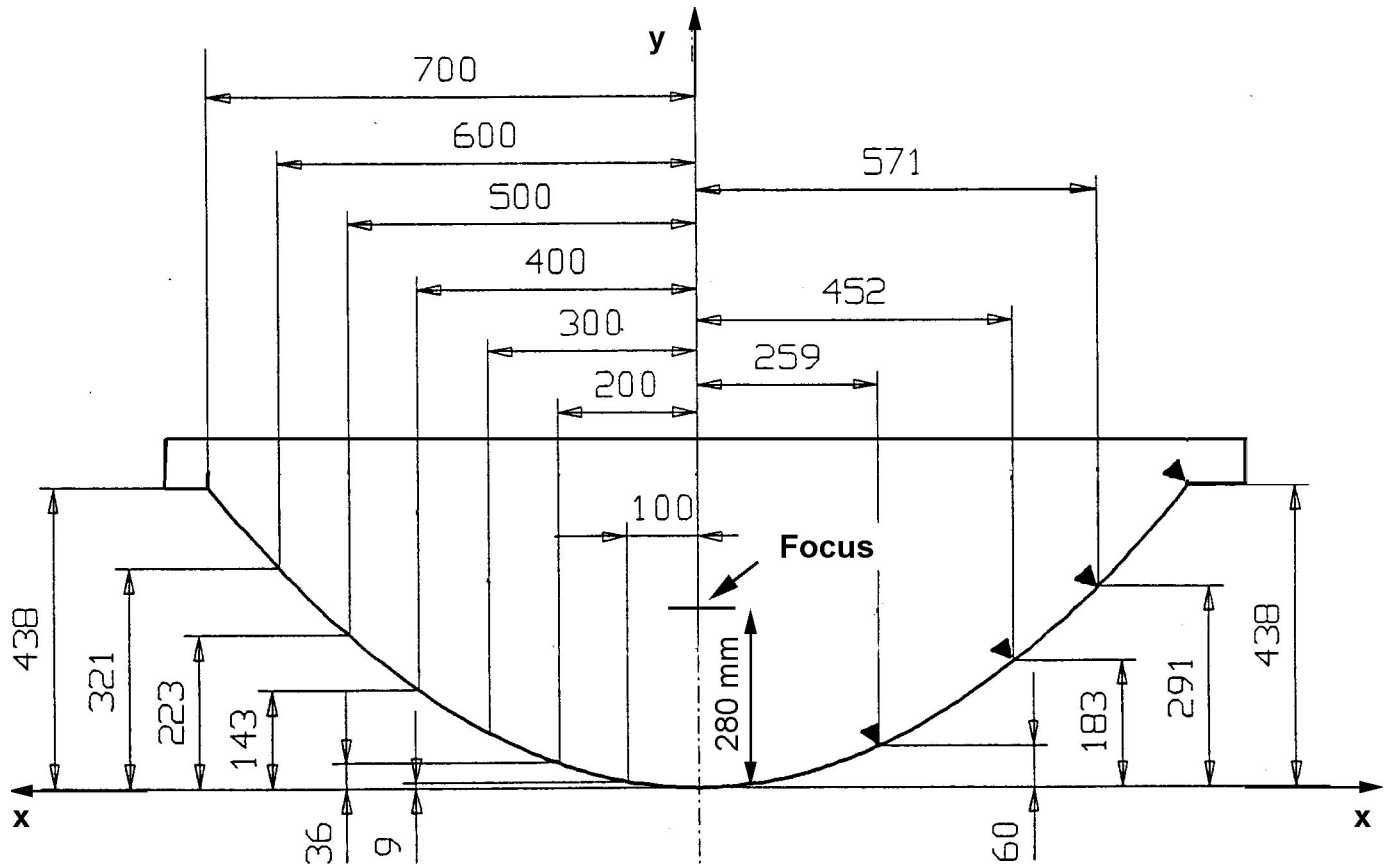

Figure 2: One part of the plate-wood model for the cooker assembly
(see figure 2)
- Mark the focal point on the y-axis having a distance of 280 mm from the base line by a little line and cut along the parabolic line with a jig-saw (so that the line just stays visible on the model). The model should look then like on figure 2.
- Repeat the whole procedure for the second piece of plate-wood to have two identical pieces like on figure 2